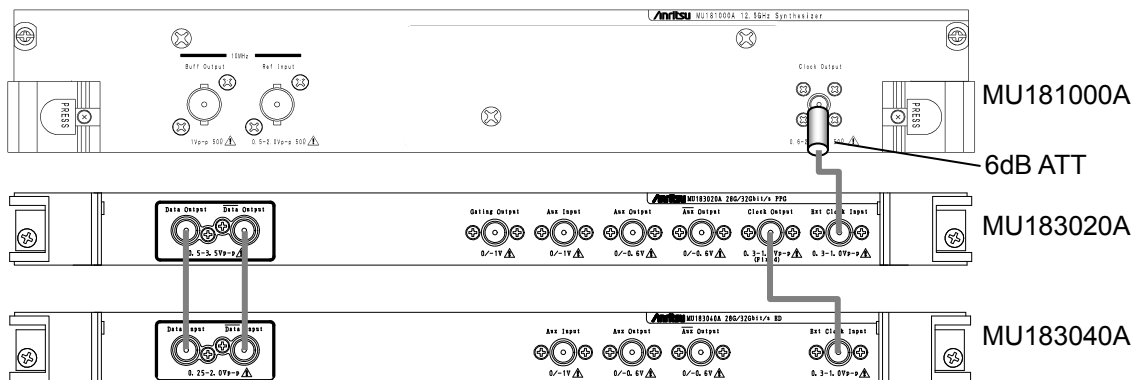

Figure 8.3.1-1 Connection diagram for operating frequency range test
4. Connect the measuring instrument cables as shown in Figure 8.3.1-1.
6. After warming up the instruments, enable the MP1800A signal output (ON) to output signals from the MU183020A/MU183021A.